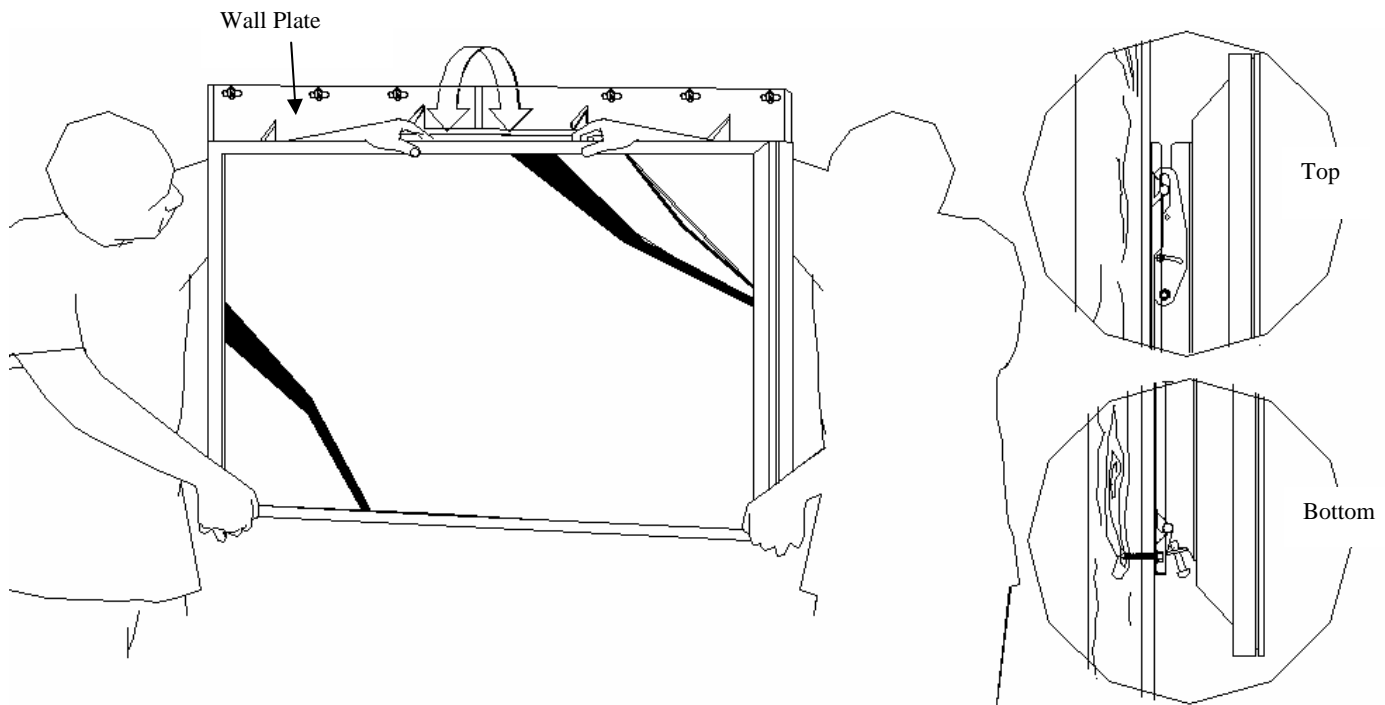

Figure 17
1. Raise the flat panel with the mounting brackets secured to the flat panel and insert the top hooks over the upper rod. The lower hooks should rest on the lower rod (Figure 17).